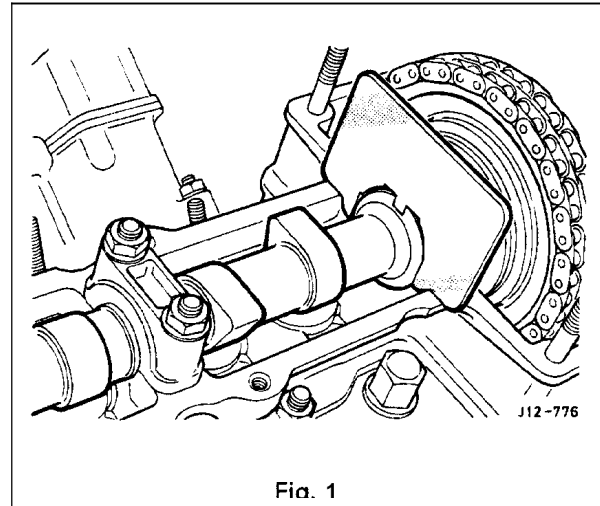

Fig. 1
- Rotate the engine to the cam removal position (TDC) until Timing Gauge C 3993 can be inserted into the recess in the camshaft (Fig. 1).
- Gradually slacken off each camshaft cap securing nut (1 Fig. 1) two turns at a time until the valve springs are fully relaxed.
- Remove the nuts / washers and lift off the bearing caps (2 Fig. 1), and remove the left-hand camshaft (3 Fig. 1).